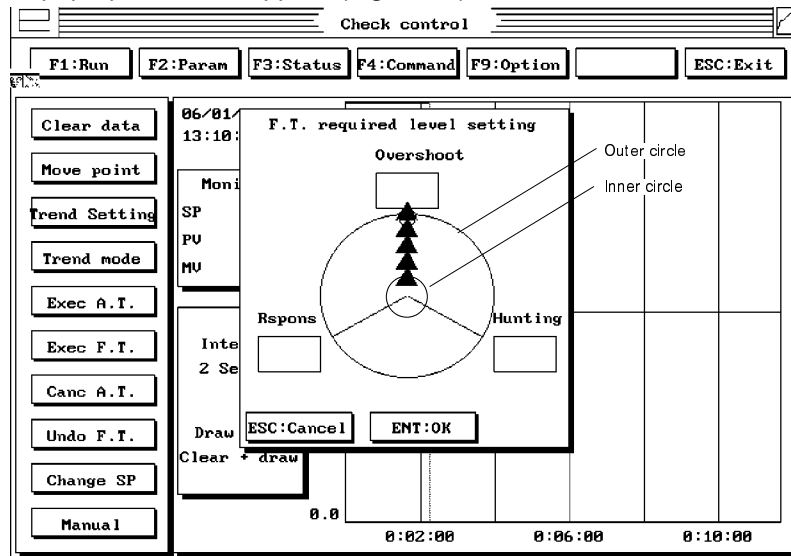

Figure 26
5. A pop-up menu will appear (Figure 26).